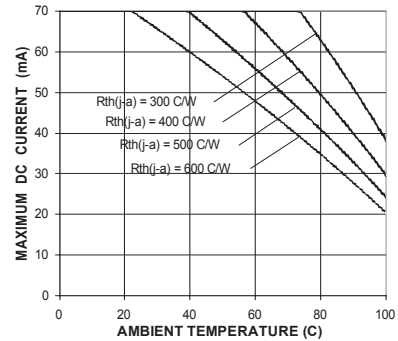

Figure 4a. HPWA-xx00 Maximum DC Forward Current vs. Ambient Temperature.
1. De-rate as shown in Figures 4a, 4b and 4c.